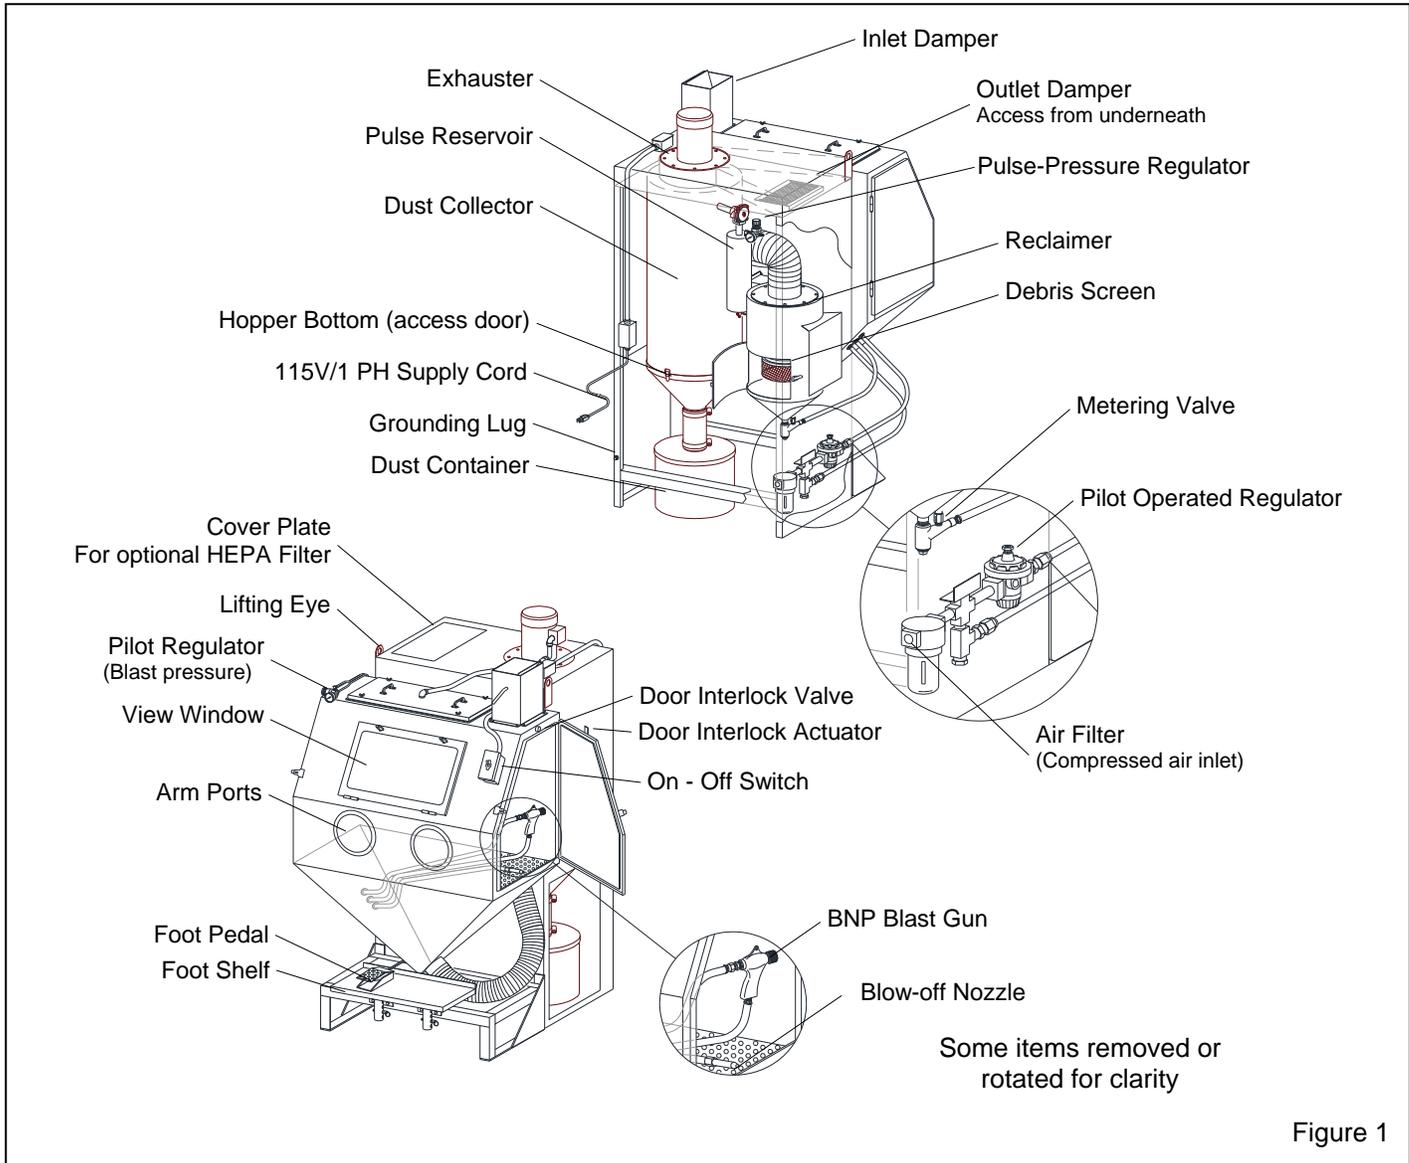

Figure 1
1.3.1 Refer to Figure 1 for arrangement of components. The blast cabinet encloses the blasting environment to provide efficient blasting while maintaining a clean surrounding work area. Production rates are influenced by size of nozzle, compressor output, working pressure, type and size of media, angle and distance of the nozzle from the blast surface. Pulsar® 55se cabinets consist of two major components.
2.2.1 Install an air fitting that is compatible with the air supply hose fitting, to the compressed-air filter located on the inside wall of the power module, as shown in Figure 1. Refer to Paragraph 2.2.2.